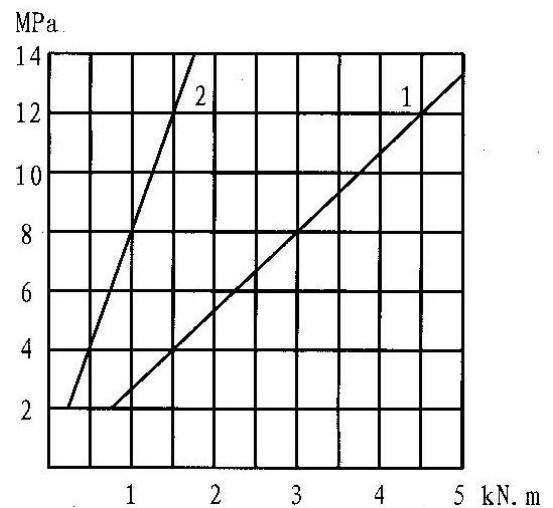

Fig.4-2
Manual control valve (3) controls power tong motor (1) and hydraulic cylinder(2)on the backup tong. Connect two hydraulic hoses of backup tong to master tong. The pressure gauge (4)displays both system pressure and torque. The relationship between pressure on the gauge and torque is shown in the figure 4-2 : line 1 is low gear rated torque and line 2 is high gear rated torque.